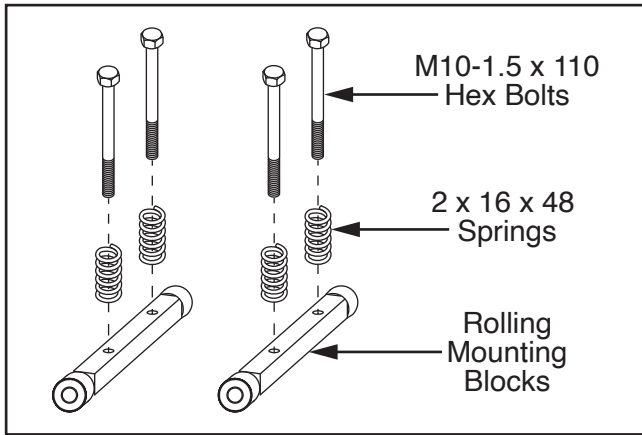

Figure 10. Inserting fasteners through rolling mounting blocks.
10. Insert (4) M10-1.5 x 110 hex bolts through 2 x 16 x 48 springs and (2) rolling mounting blocks (see **Figure 10**).